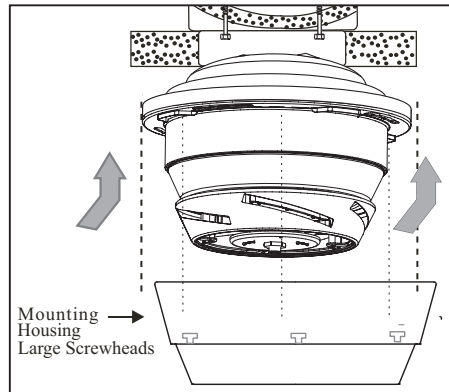

Figure 10
3. Align large screwheads at mounting housing with slotted holes in mounting bracket. Turn motor housing counterclockwise, to the LEFT, until it no longer turns. (Figure 10, 11)